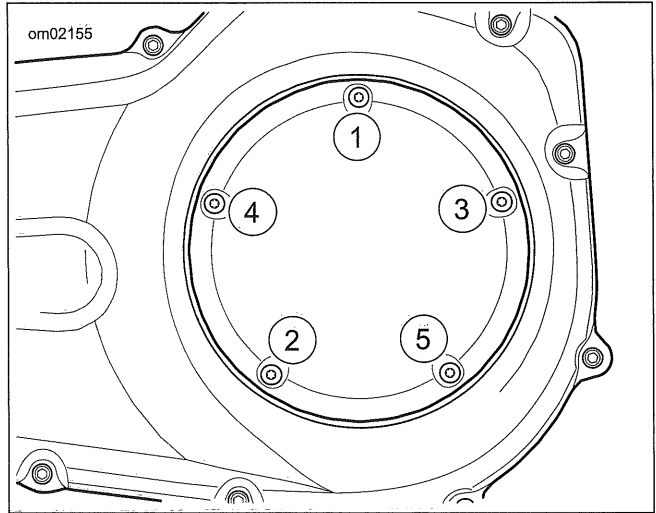

Figure 2-8. Clutch Cover Tightening Sequence
- Secure clutch inspection cover (2) with screws with captive washers (3).
- See Figure 2-8. Tighten in sequence shown.